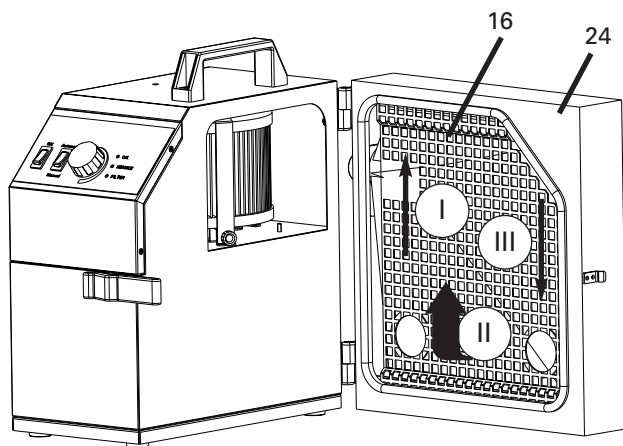

Fig. 3.2
- Open the door (24) (Fig. 3.2) and remove the transport clamp (6) by unscrewing the knurled screw (8).
- Flip the fine filter cartridge (7) forward and remove it through the opening.
- Insert the new cartridge (7) and fix the transport clamp (6) with the knurled screw (8)
- Close the door (24) and the buckle (1).